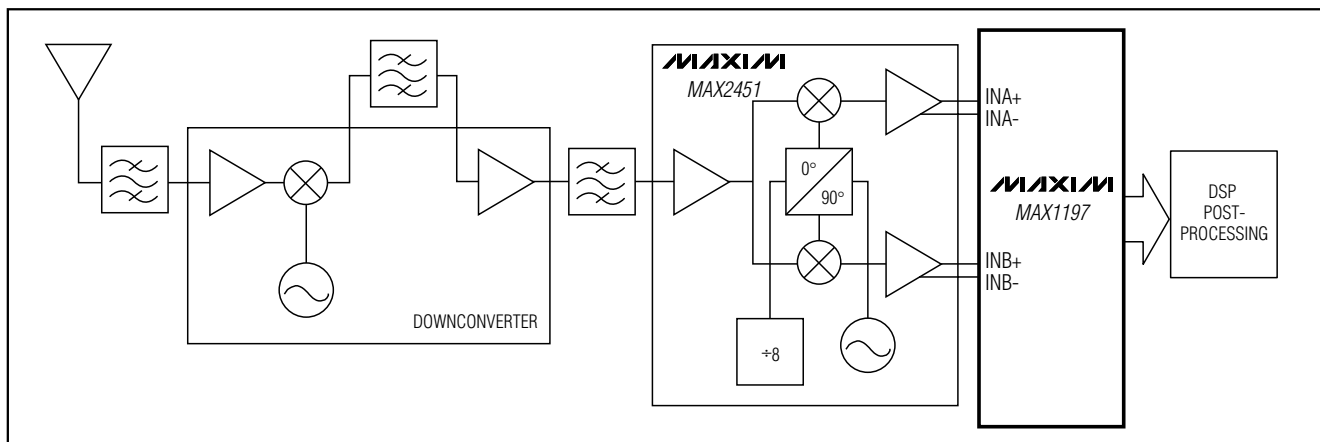

Figure 10. Typical QAM Application Using the MAX1197
modulation (QAM). Typically found in spread-spectrum-based systems, a QAM signal represents a carrier frequency modulated in both amplitude and phase. At the transmitter, modulating the baseband signal with quadrature outputs, a local oscillator followed by subsequent upconversion can generate the QAM signal. The result is an in-phase (I) and a quadrature (Q) carrier component, where the Q component is 90° phase shifted with respect to the in-phase component. At the receiver, the QAM signal is divided down into its I and Q components, essentially representing the modulation process reversed. Figure 10 displays the demodulation process performed in the analog domain, using the dual matched 3V, 8-bit ADC MAX1197 and the MAX2451 quadrature demodulator to recover and digi-